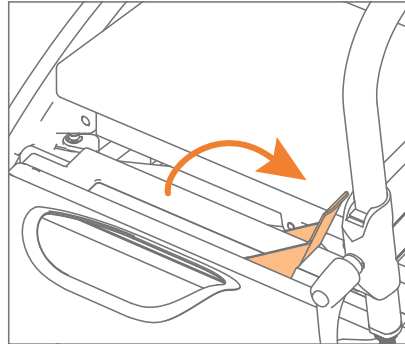

Figure 56: Unlocking the wheelchair package.
- a. Pull up the red handle without force. This way the locking bolts are tied in, and the wheelchair package unlocked (**Figure 56**).